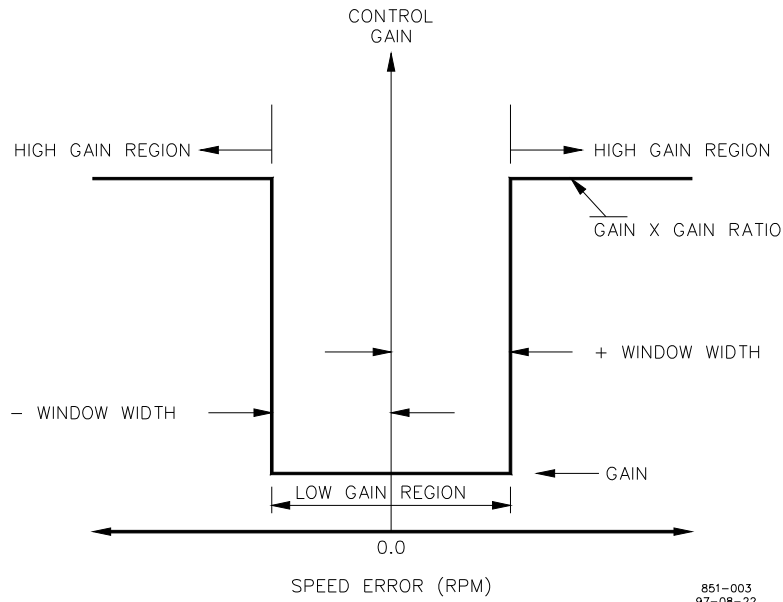

Figure 3-2. Control Gain as a Function of Speed Error
The following descriptions of each menu item apply to either set. Also see Figures 3-2, 3-3, and 3-4.
4. **GAIN RATIO** is the ratio of the Gain setting at steady state to the Gain setting during transient conditions. The Gain Ratio operates in conjunction with the Window Width and Gain adjustments by multiplying the Gain set point by the Gain Ratio when the speed error is greater than the Window Width. This makes the control dynamics fast enough to minimize engine-speed overshoot on start-up and to reduce the magnitude of speed error when loads are changing. This allows a lower gain at steady state for better stability and reduced steady-state actuator linkage movement. (See Figure 3-2.)
5. **WINDOW WIDTH** is the magnitude (in rpm) of a compensated speed error (E_c) at which the control automatically switches to fast response. The control uses the absolute value of compensated speed error (E_c) to make this switch. The absolute value is the difference between the speed reference (N_r) and the compensated speed (N_c). A Window Width too narrow will result in cycling that always factors in the Gain Ratio. (See Figure 3-2.)
13. **GAIN RATIO** is the ratio of the Gain setting at steady state to the Gain setting during transient conditions. The Gain Ratio operates in conjunction with the Window Width and Gain adjustments by multiplying the Gain set point by the Gain Ratio when the speed error is greater than the Window Width. This makes the control dynamics fast enough to minimize engine speed overshoot on start-up and to reduce the magnitude of speed errors when loads are changing. This allows a lower gain at steady state for better stability and reduced steady-state actuator linkage movement (see Figure 3-2).
14. **WINDOW WIDTH** is the magnitude (in rpm) of a compensated speed error (E_c) at which the control automatically switches to fast response. The control uses the absolute value of the compensated speed error (E_c) to make this switch. The absolute value is the difference between the speed reference (N_r) and the compensated speed (N_c). A Window Width too narrow will result in cycling that always factors in the Gain Ratio (see Figure 3-2).